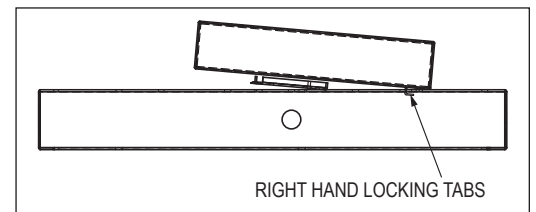

FIGURE 2
5. Refer to Figure 2. Insert the KVM Remote Module into the opening of the rear panel by sliding the right hand locking tabs in all the way to the right.